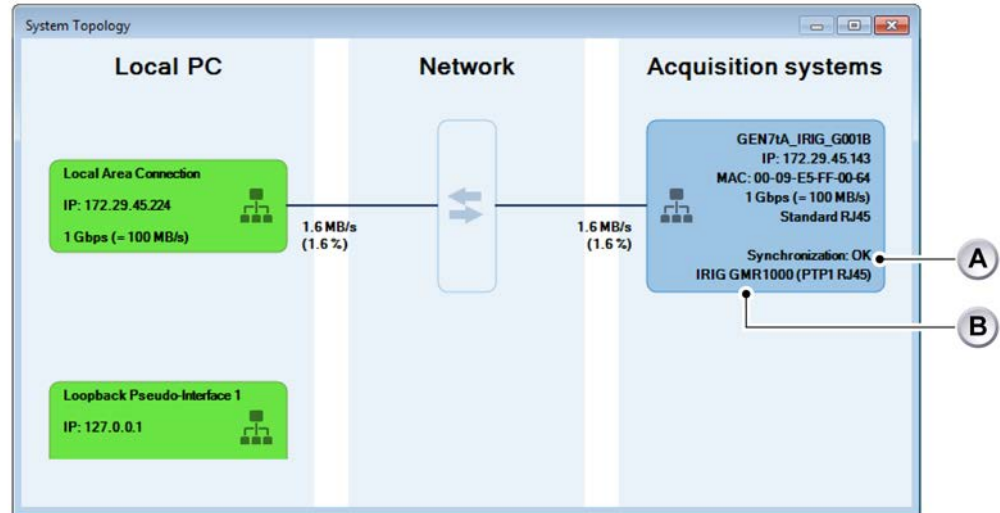

Figure 14.46: System Topology
2 The **System Topology** overview opens (see Figure 14.46):
- B** States that **IRIG GMR1000** is connected as selected (**PTP1 RJ45** for RJ45 connection as shown in Figure 14.46, **PTP2 SFP** if you are using the optical Ethernet).